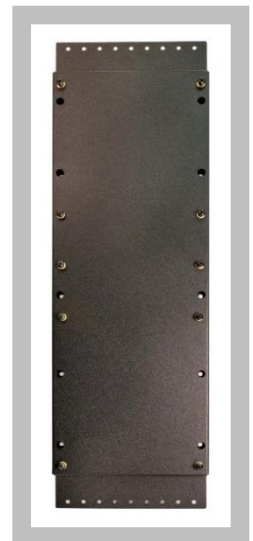

Figure 2
1. The optional backplate (**Figure 2**) makes installation easier.